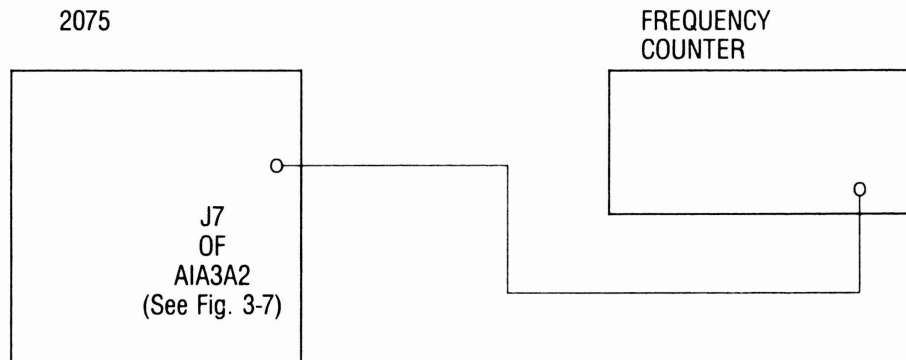
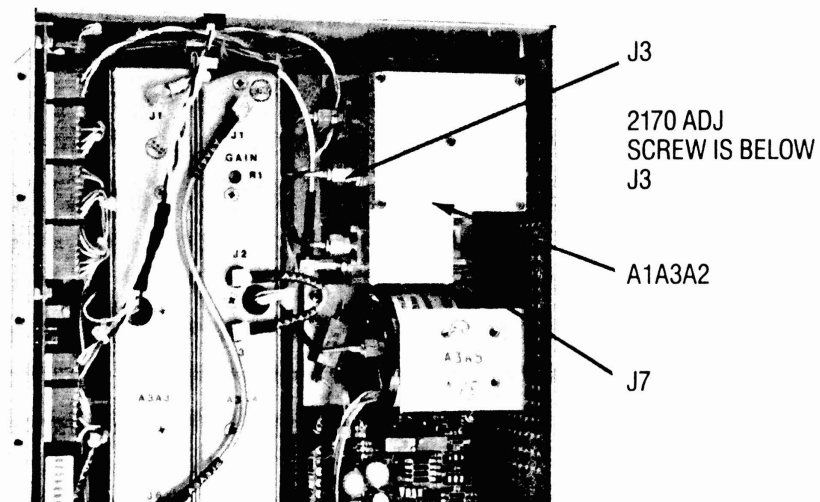

Figure 3-6. 2170 MHz SECOND OSCILLATOR ADJUSTMENT SETUP
Figure 3-7. LOCATION OF J7 AND 2170 ADJ SCREW ON A1A3A2
1. Connect the test equipment as shown in Figure 3-6. Connect the test cable from the frequency counter input to connector J7 on assembly A1A3A2. The location of J7 is shown in Figure 3-7.
4. If necessary, use a 5/64 hexagonal key to turn the 2170 ADJ screw on assembly A1A3A2 to obtain an output frequency of 2170 MHz. Turn the 2170 ADJ screw clockwise to lower the frequency, or counter-clockwise to increase it. See Figure 3-7.